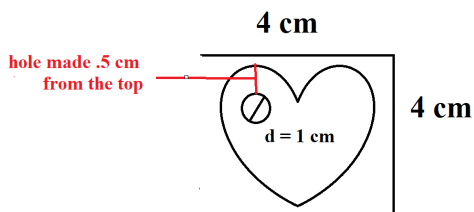

Figure 6a: The paper heart dimensions for cardstock cutting. Dimensions are approximate and can be modified based on user preference.
5. Cut six paper hearts (roughly 4 cm x 4 cm dimensions) out of the cardstock, then punch holes in the corner of four of them. Cut four pieces of string, and tie the strings to four of the hearts. Then tie two of the attached two string-heart suspensions to the ends of one of the top-most tongue depressors (See Figures 6a/b in Appendix C).